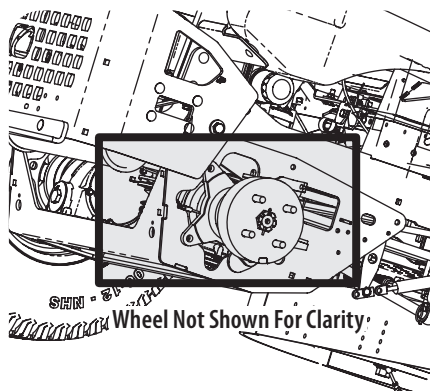

Figure 36
- Clean around and near the transmission, axle and the fan area. See Figure 36.